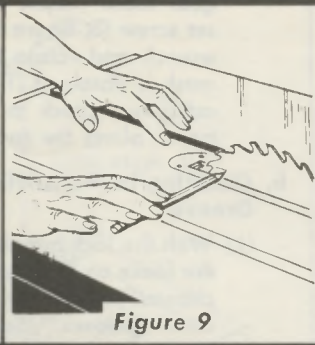

Figure 9
- (2) Make a pencil mark on the saw tooth that is just above the table top surface at front of the blade. (See figure 9.)
- (3) Measure the distance from this tooth to the right-hand table groove.
- (4) Rotate blade by hand to locate this (marked) saw tooth just above table top at rear of blade, and again measure the distance from the saw tooth to the right-hand table groove. These two measurements must be exactly the same.